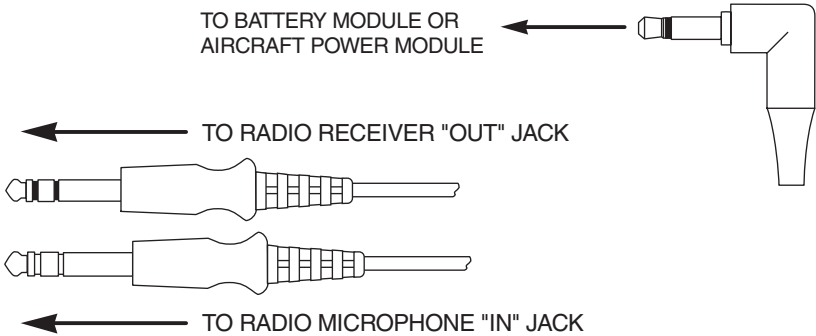

Figure 2: Connections
1. Connect the headset as shown in Figure 2.